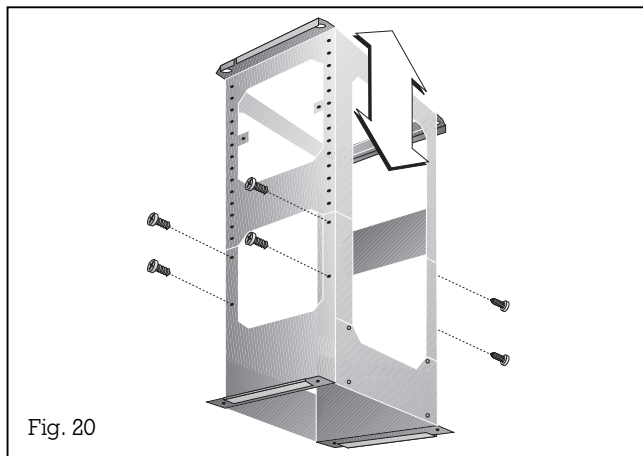

Fig. 20
4. Adjust the support frame to the desired height and secure with 8 screws (12 screws for the longer ventilation ducts). The length of the support frame can be adjusted in steps of 20 mm (Fig. 20).